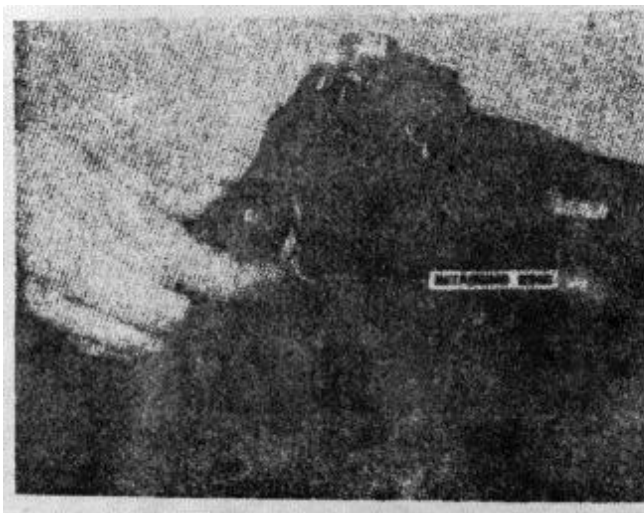

Figure 4-8. Removing throttle assembly
2. Pull the throttle shaft assembly from the fuel pump housing. Fig. 4-8.